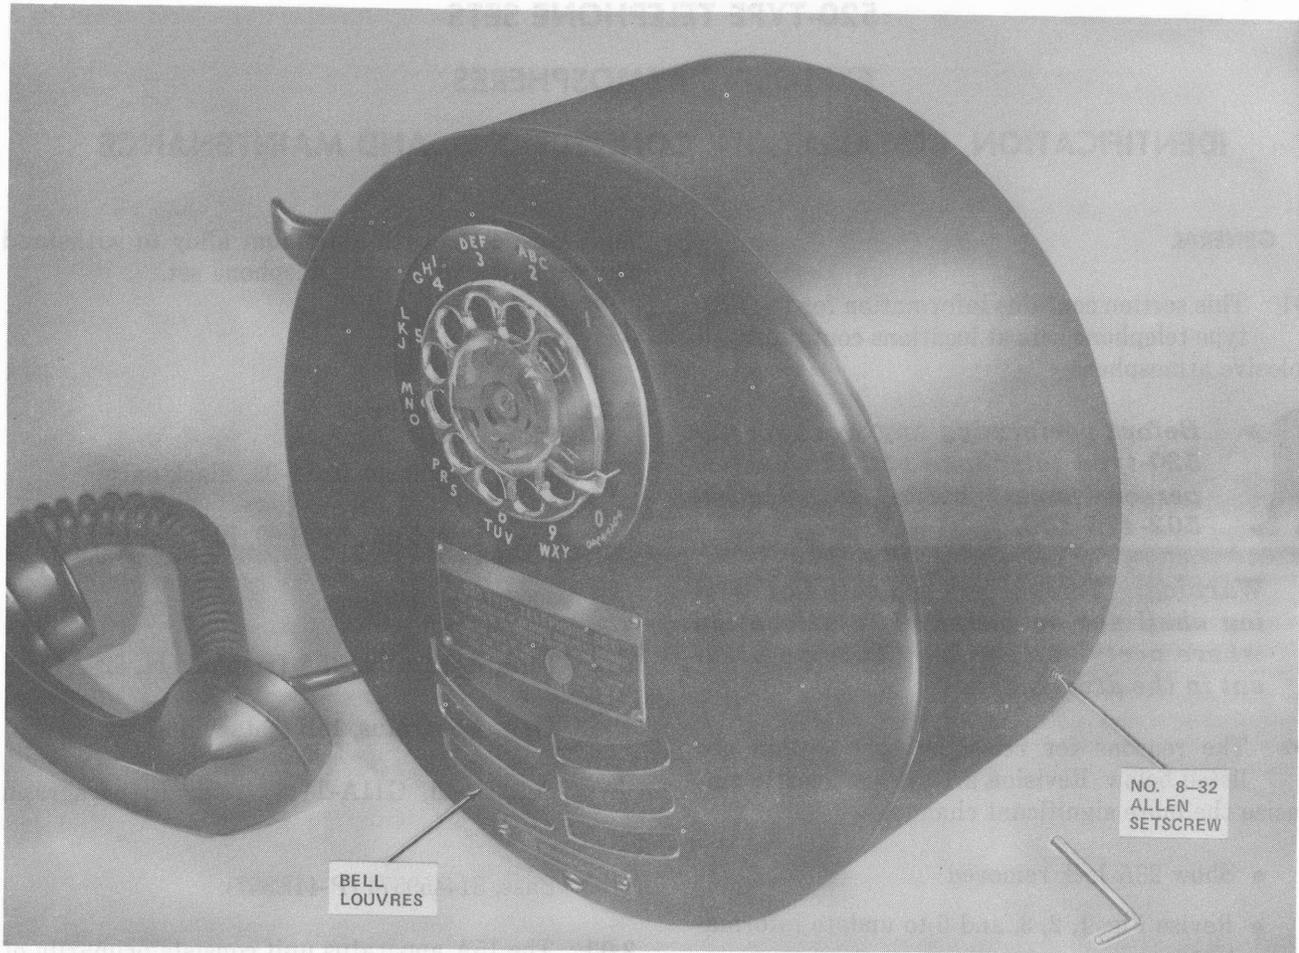
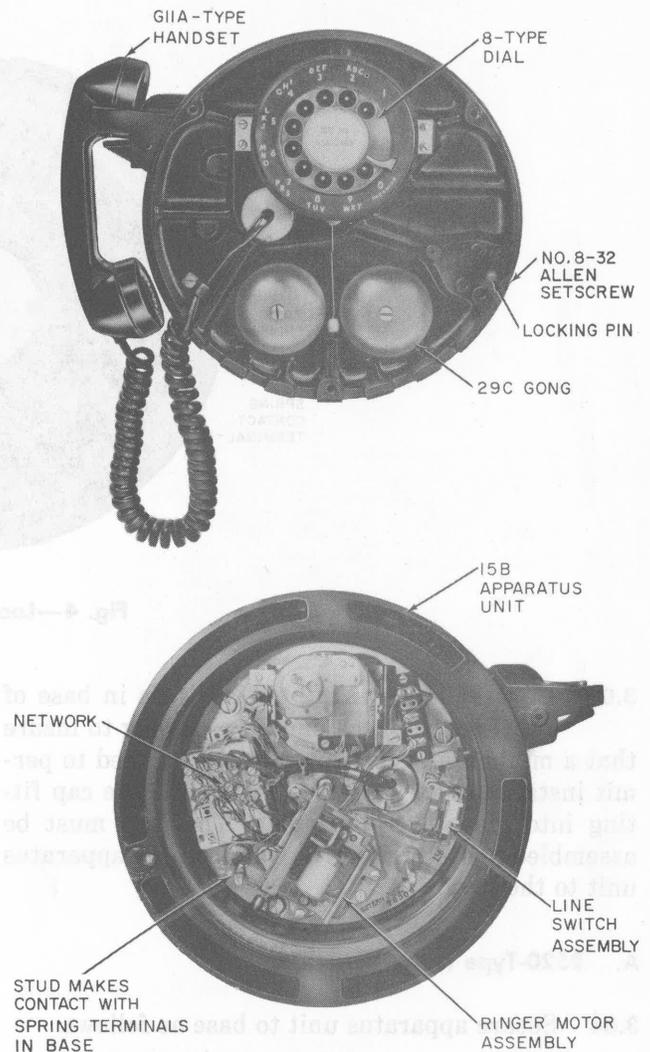

Fig. 1—520B Telephone Set
Fig. 3—Interior and Front View of 15B Apparatus Unit
- Revise Fig. 1, 2, 3, and 6 to update information
2.01 The 520-type telephone set (Fig. 1 and 2) consists primarily of two major components, an apparatus unit and a base. These parts are made of
2.05 The base (Fig. 3) provides an external projection to engage corresponding threads in the apparatus unit. It also provides spring-type contact terminals for line and ground conductors.
2.06 The apparatus unit, which screws onto the base, contains the telephone set components (Fig. 3). Three projecting studs located on the back of the apparatus unit make contact with the three spring terminals in the base, thus carrying line and ground connections into the unit. The earlier versions of the apparatus unit are equipped with a 23A lock and two keys. Keys are interchangeable with all 320-, 520-, and 2520-type telephone sets. The current versions of the apparatus unit are equipped with a No. 8-32 Allen setscrew (Fig. 1) which performs the same function as the 23A lock by engaging the locking pin, which then allows the cover to be secured. The early and current version sets cannot be locked unless the locking pin is engaged in the locking hole in base of set.
(a) Loosen No. 8-32 Allen setscrew (Fig. 1) to permit release of locking pin.
4.02 To remove apparatus unit from service, turn key in lock on earlier versions or remove cover and loosen No. 8-32 Allen setscrew (Fig. 1) on current versions until locking pin pops out. Apparatus unit may now be screwed off base.